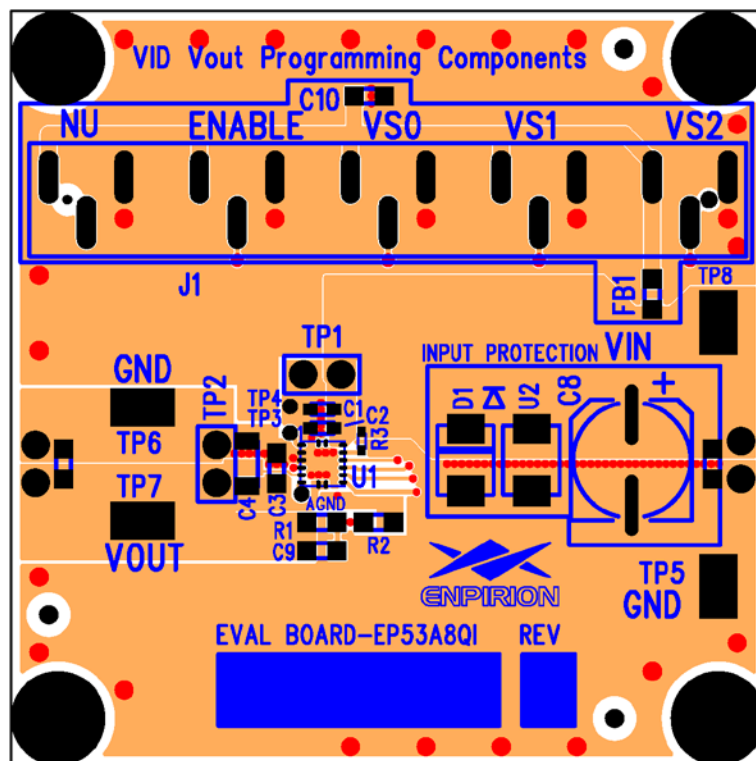

Figure 1. Evaluation Board Layout
This application note describes how to test the EP53A8LQI and the EP53A8HQI converters using the Altera Enpirion EP53A8QI Eval Board shown in Fig. 1. In addition to this document you will also need the device datasheet for a thorough evaluation of the power converter module.
STEP 2: Connect a power supply to the input test points, TP8 (+) and TP5 (-) as indicated in Figure 1. The same test points can also be used to measure the input voltage.
STEP 4: Connect the load to the output connectors TP7 (+) and TP6 (-), as indicated in Figure 1. The same test points are also used to measure the DC output voltage.